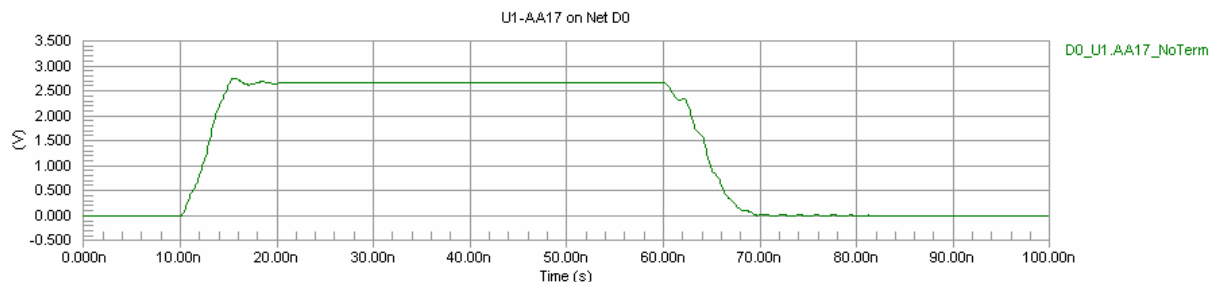

Figure 6. Waveform for D0 at the FPGA pin, with Slew = SLOW and Drive = 4mA.
6. Click the **Reflections** button at the bottom of the panel to run a Reflection Analysis on the net D0. The resulting waveform will appear, as shown in Figure 6.